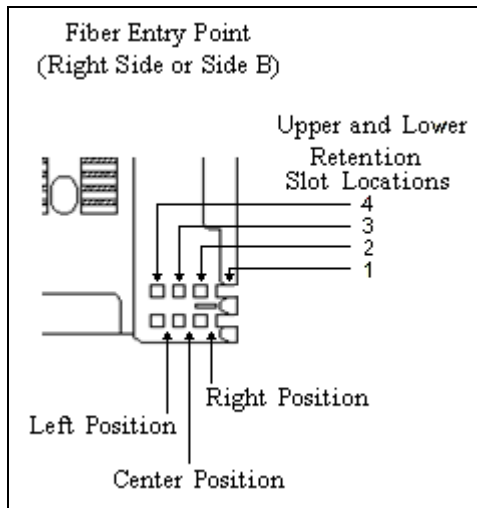

FIGURE 2M1-5. Mounting positions and retention slot identification.
NOTE: FIGURE 2M1-5 identifies the mounting positions and retention slots for the Side B entry point of the splice tray.
- a. Place the 5mm BOF tube down on the splice tray in the right most position on Side B. Ensure that the flange end of the brass sleeve is located above the upper retention slots (see FIGURE 2M1-6A).